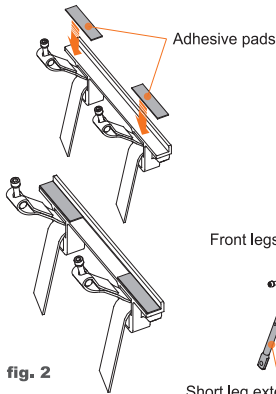

fig. 2
2. Attach adhesive pads on both ends of inner surface of seat stay rigs (see fig. 2).